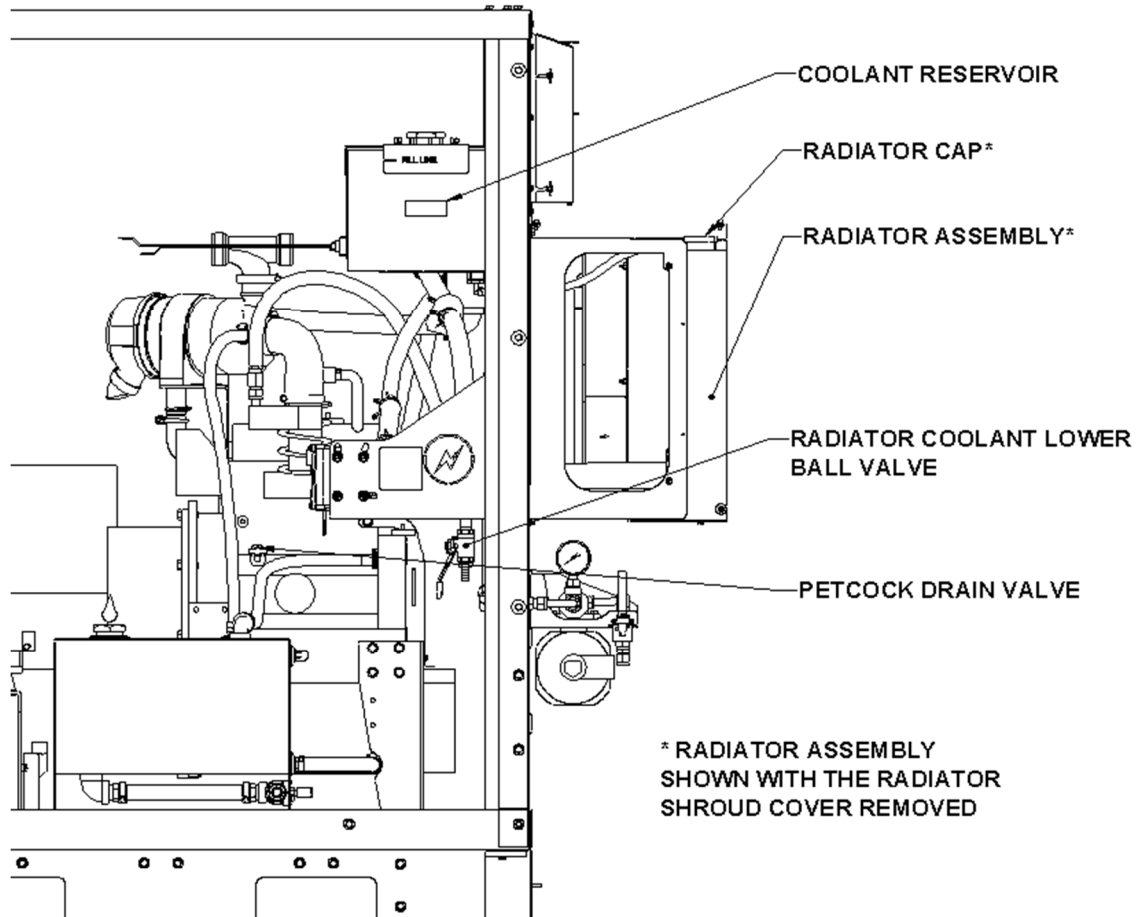

Figure 11-1 – Radiator Assembly
3. Put hoses from both the engine block petcock and the radiator coolant lower ball valve (Figure 11-1 – Radiator Assembly) into disposal bucket.